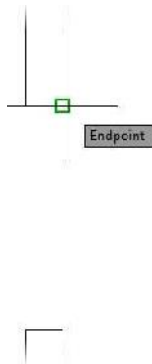

FIGURE 4.43: The Endpoint osnap marker
When the cursor gets very close to a line, a colored square, called a *marker*, appears at the nearest endpoint along with a tool tip that indicates which osnap is active, as shown in Figure 4.43. This shows you which endpoint in the drawing is closest to the position of the crosshair cursor at that moment.
11. Move the cursor until the square is positioned on the right end of the upper jamb line as shown in Figure 4.43, and then click that point.